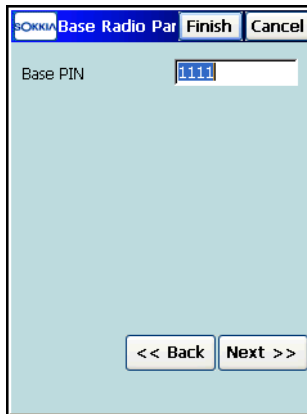

Figure 4-17. Base Cell Phone Parameters
- For the Internal HiPer GSM, Internal HiPerXT GSM, Internal CR-3(GSM), Internal CR-3Satel(GSM), Motorola V60, Motorola V710, MultiTech GSM/GPRS, Siemens TC35, Siemens M20, Wavecom Fastrack GSM or Nextel i58sr Cell Phone modem types, set the Base PIN (see Figure 4-17 on page 4-13).